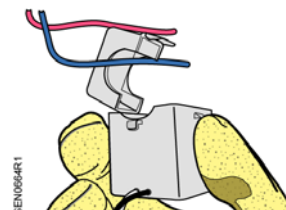

Figure 2. Install CT around Conductor. Verify that the arrow on the CT points toward the load.
2. Install the CT around the load conductor to be measured. Verify that the arrow on the black connector points toward load. See Figure 2.